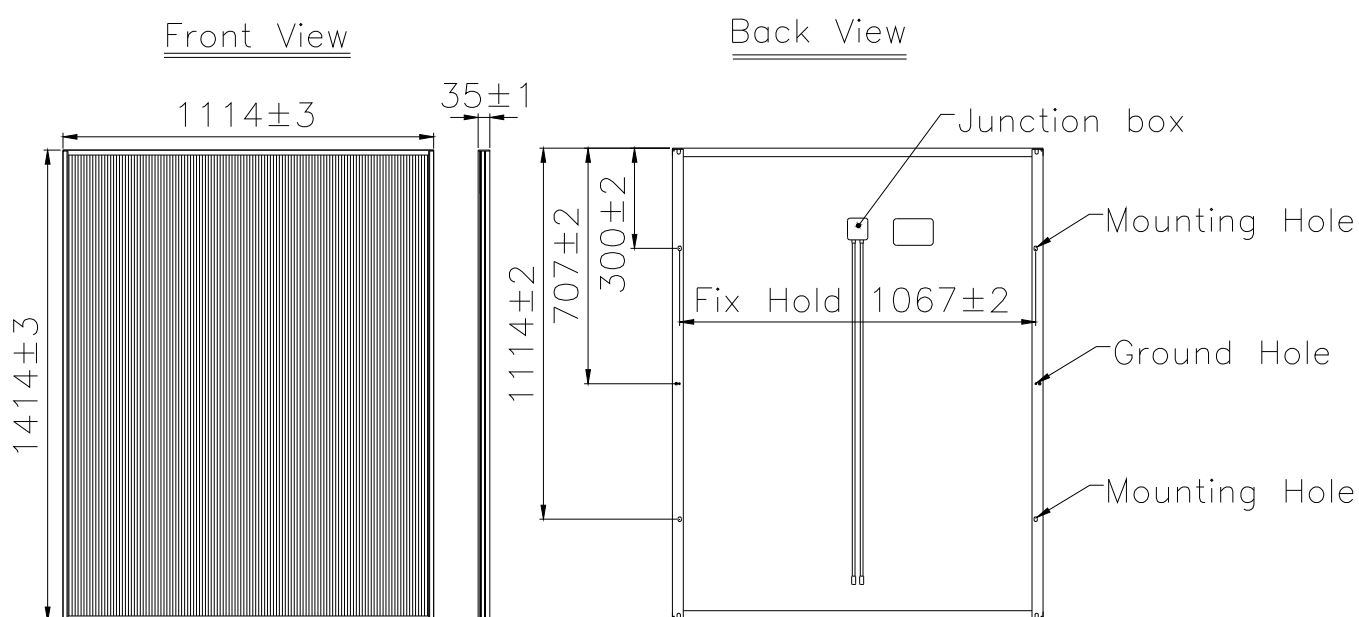

Figure1: External dimensions of CSSS-100 series PV module.
- External Dimensions showed in Figure1.